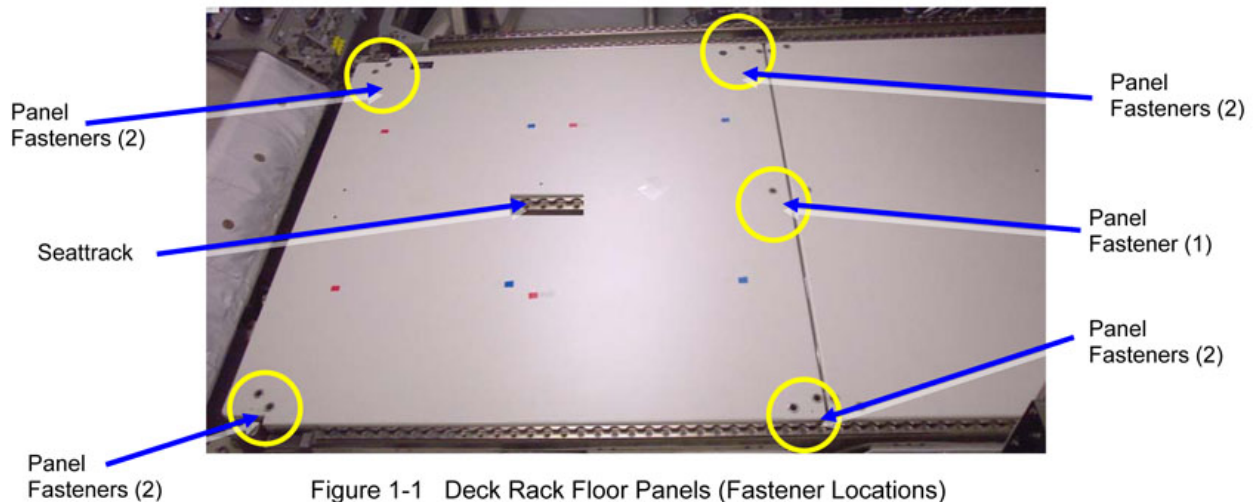
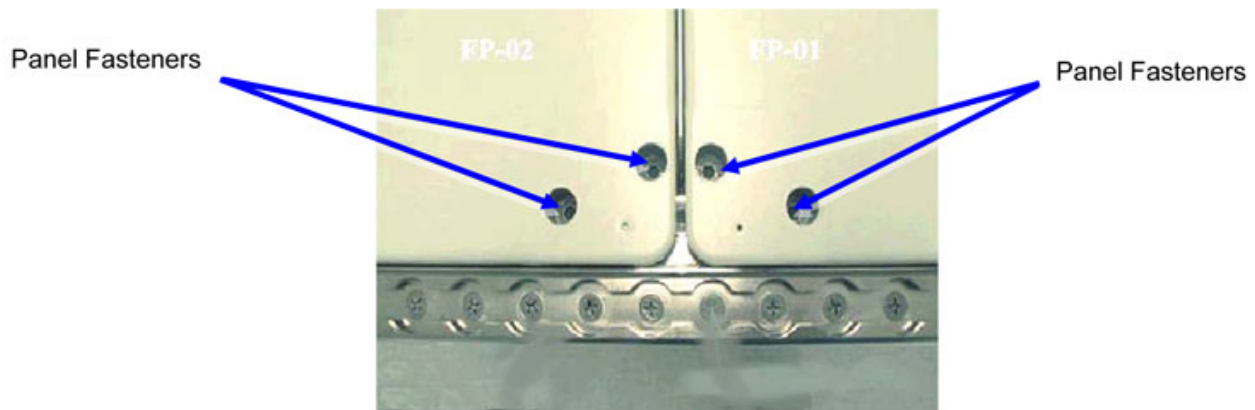

Figure 1-1 Deck Rack Floor Panels (Fastener Locations)
Figure 1-2 Panel Fastener Details
- 1.2 Unscrew panel fasteners (9), any order (Ratchet Wrench 1/4" Drive; 102 mm Extension 1/4" Drive; T30 Torx Head 1/4" Drive). Fasteners are captive. Refer to Figure 1-1 / Figure 1-2.